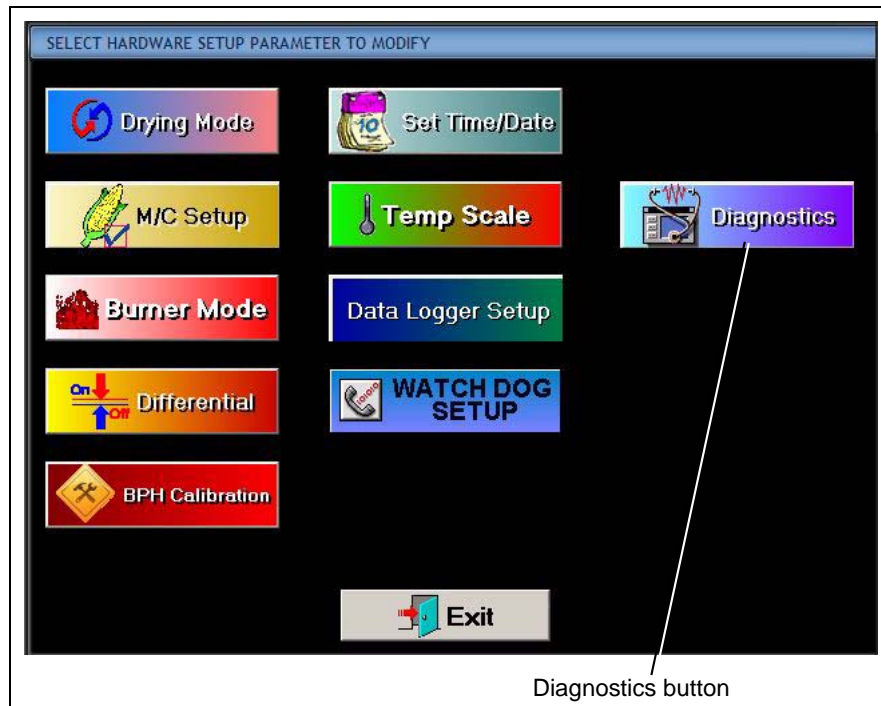

Figure 3F Diagnostics Button on Setup Screen
6. Return to the Main Operation screen. Turn the unload switch to manual and set the meter roll speed dial to 5% (50).
7. Press the Setup button at the bottom of the Main Operation screen to return to the Setup screen. Touch the DIAGNOSTICS button. (See Figure 3F.)